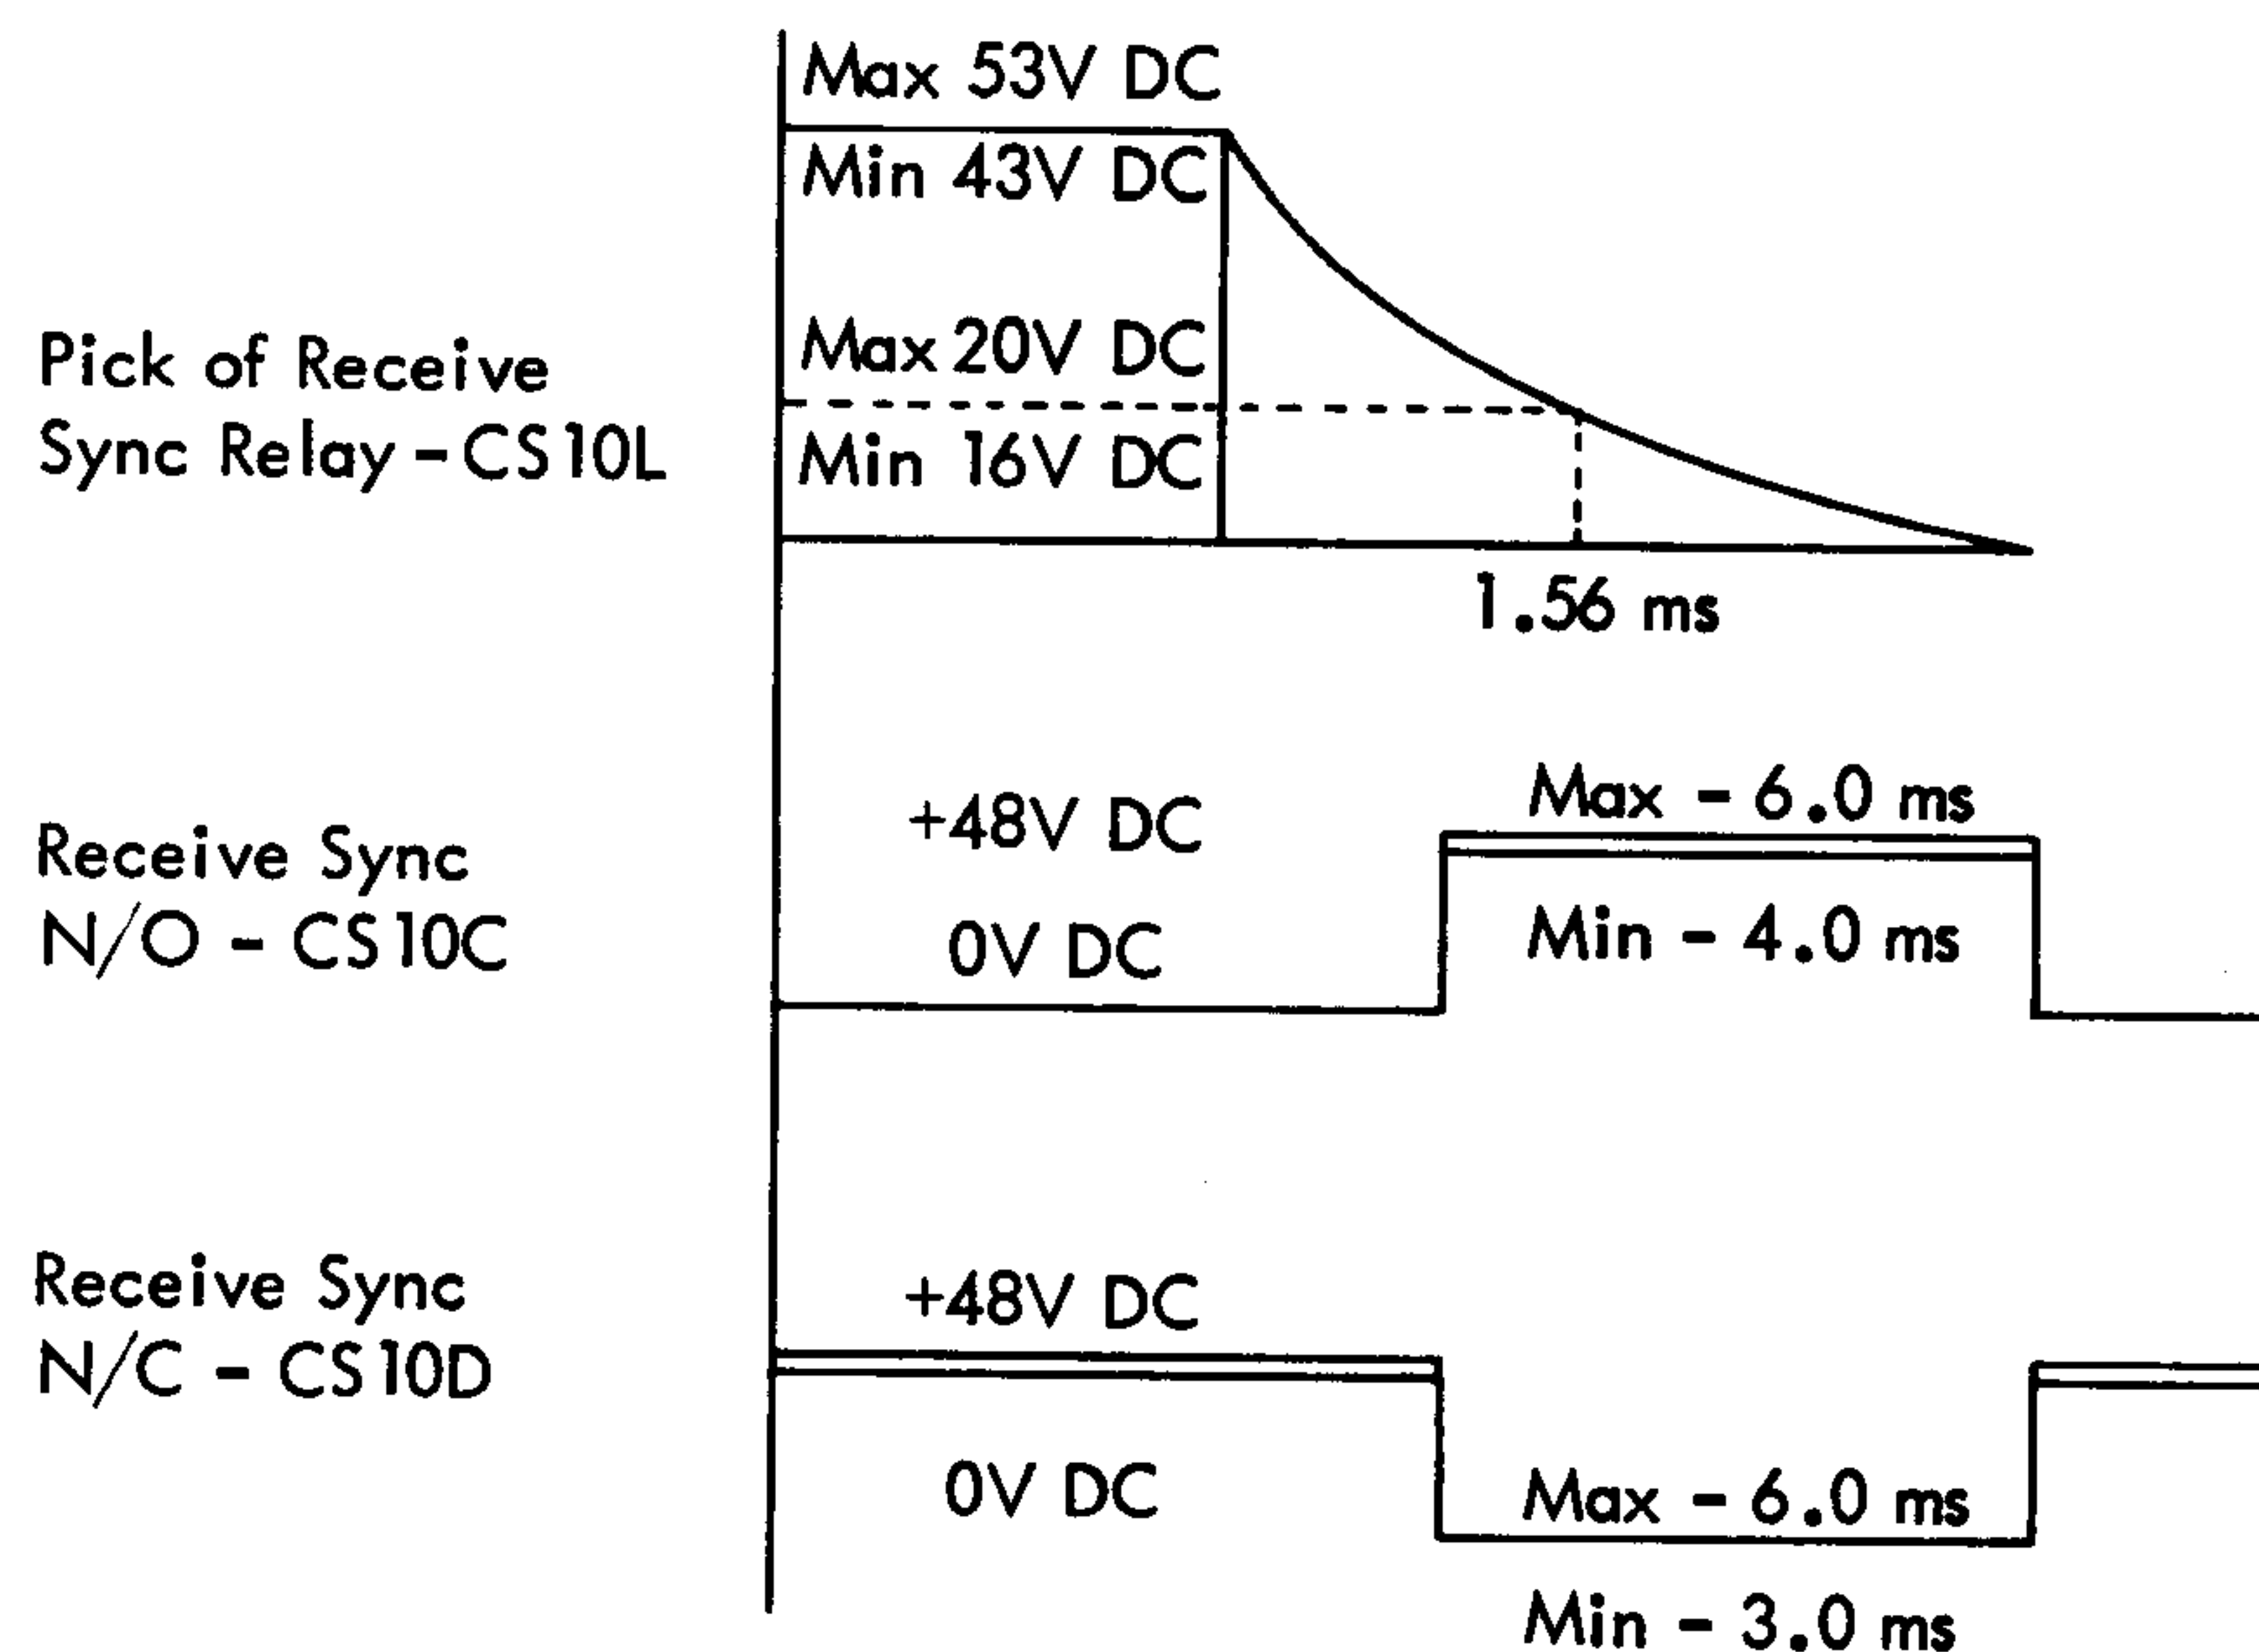

Figure 23. Receive-Sync Relay Timing
3. Receive-sync relay timing (Figure 23). The durations of the receive-sync mercury-wetted relay points are shown with maximum and minimum make and break duration times.